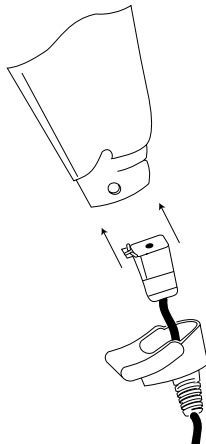

Figure 2-2. Plugging in the Modular Connector
3. Plug the modular connector on the cable into the receptacle in the bottom of the LS 400Xi handle (Figure 2-2). Listen for a click.